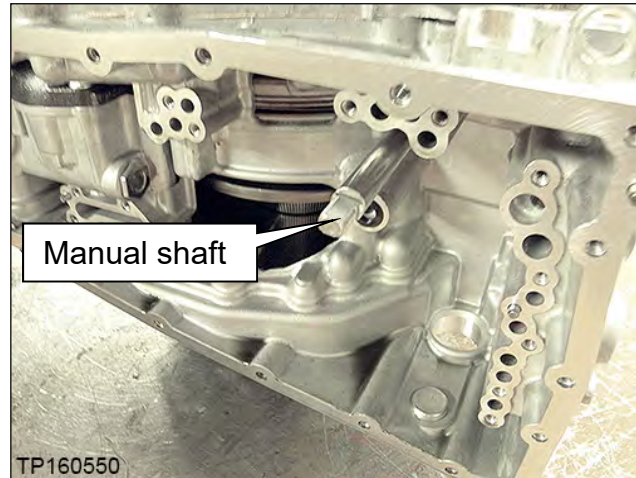

Figure 71
- Do not hit the manual shaft (Figure 71) while rotating the CVT; the manual shaft is longer than the oil pan mating surface. Use plastic / wooden blocks to support as needed.